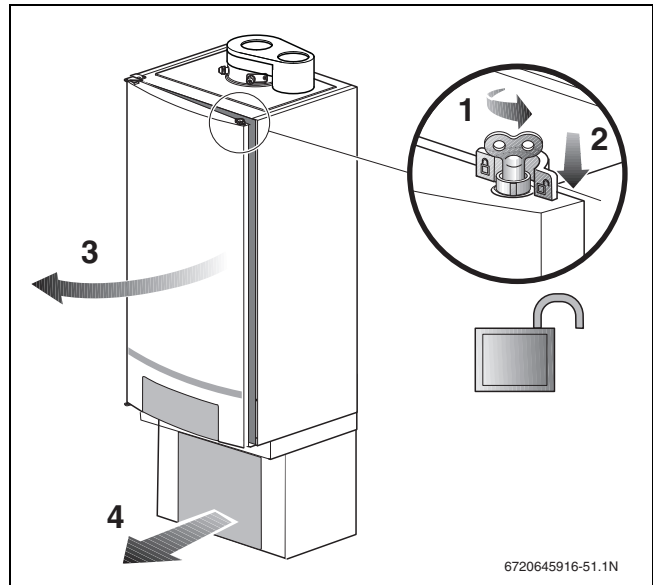

Fig. 55 Opening the boiler door
- ▶ Turn the vent key a quarter rotation to undo the boiler door lock (→ fig. 55, detailed picture). Push the fastener down (→ fig. 55, step 2) and open the boiler door.
- ▶ Remove the insulation cover of the pump group (→ fig. 55, step 4).
- ▶ Turn the vent key through a quarter rotation to undo the boiler door lock (→ fig. 55, page 32).